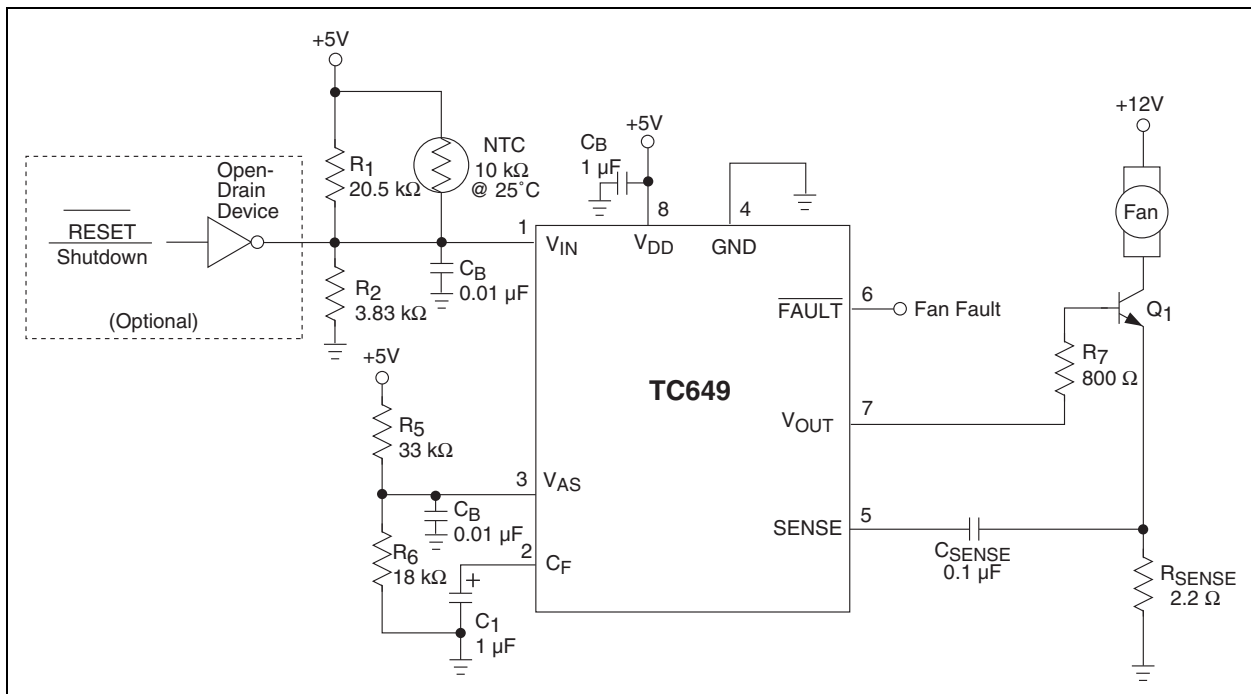

FIGURE 5-9: Design Example.
Step 1. Calculate R_1 and R_2 based on using an NTC having a resistance of $10\ \text{k}\Omega$ at T_{MIN} (25°C) and $4.65\ \text{k}\Omega$ at T_{MAX} (45°C) (see Figure 5-9).